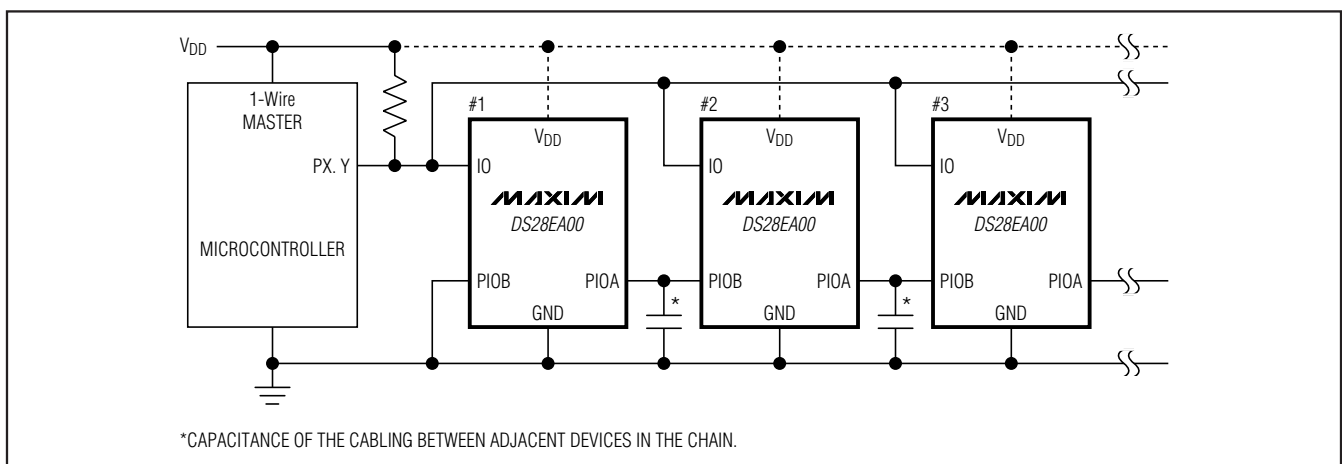

Figure 15. DS28AE00 Wired for Sequence Discovery (“Chain Function”)
**Precondition:** The PIOB pin ( $\overline{EN}$ ) of the first device in the chain is at logic 0. The PIOA pin ( $\overline{DONE}$ ) of the first device connects to the PIOB of the second device in the chain, etc., as shown in Figure 15. The 1-Wire master detects the physical sequence of the devices in the chain by performing the following procedure.